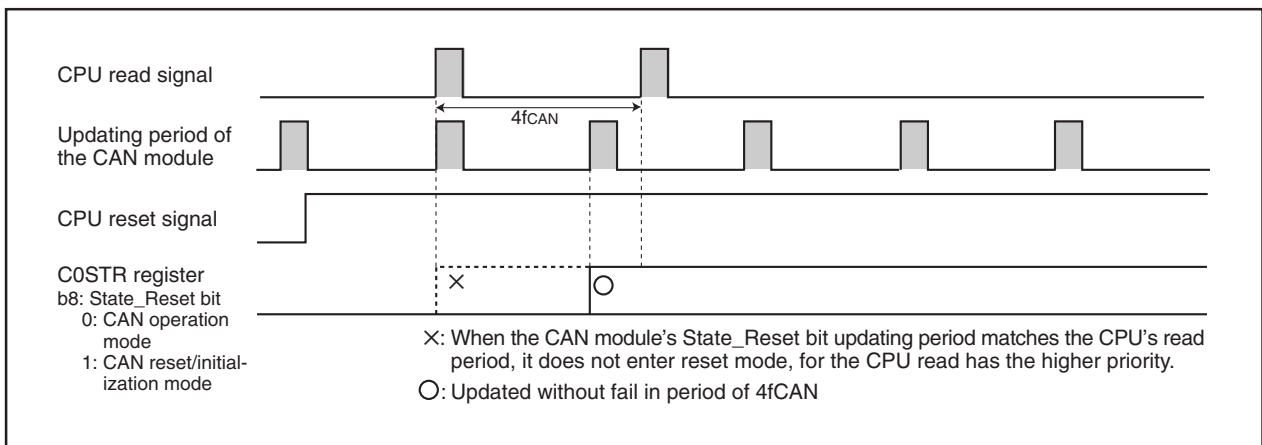

Figure 23.5 When Polling Period of CPU is $3f_{CAN}$ or Longer
- (b) When the CPU polls the C0STR register, the polling period must be $3f_{CAN}$ or longer. (See **Figure 23.5 When Polling Period of CPU is $3f_{CAN}$ or Longer.**)